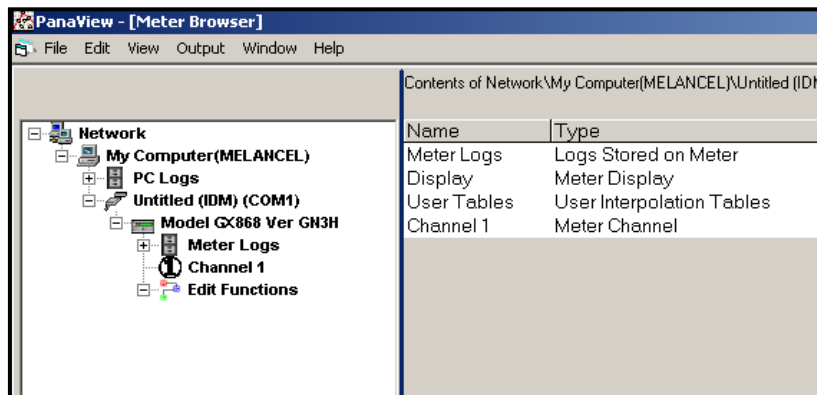

Figure 34: New Meter Browser with Meter Branch
3. Then expand the meter tree as shown in Figure 34 below.